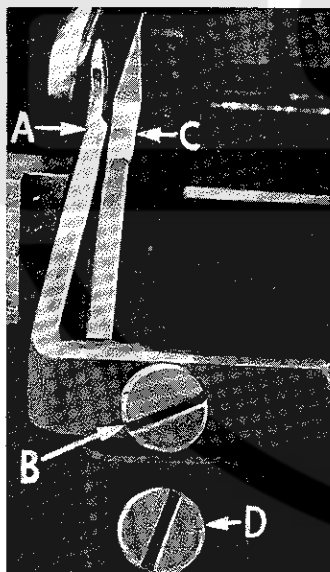

Fig. 6
Set rear needle guard (A, Fig. 6) as high as possible, without interfering with either lower loop or spreader, or movement of lower knife holder, but still in position to deflect needle forward .002-.004 inch. Screw (B) is used to set rear needle guard. Make sure there is no interference between rear needle guard and lower loop or spreader.
Assemble front needle guard (C, Fig. 6). When lower looper is springing needle off rear needle guard, set front needle guard as close as possible to needle without touching. Screw (D) is used to adjust and set front needle guard. After this setting make sure there is no interference between needle guards and differential feed dog.